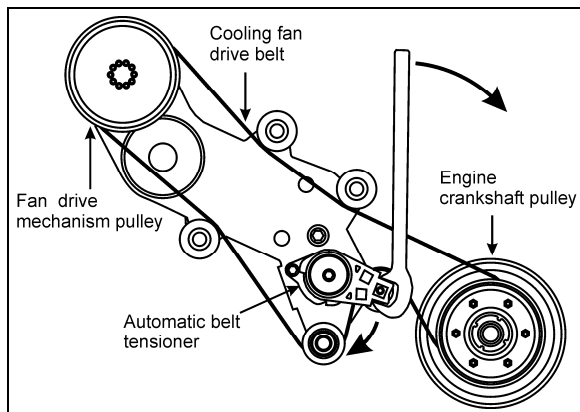

FIGURE 25: DRIVE BELT ROUTING
- Wrap the new drive belt around the fan drive mechanism pulley, the idlers and the automatic tensioner idler as shown on figure 25.
- Using a $\frac{1}{2}$ " breaker bar or a 1 $\frac{1}{2}$ " open end wrench, rotate the automatic tensioner in clockwise direction to relieve tension on the belt and hold the tensioner in that position (Fig. 25).